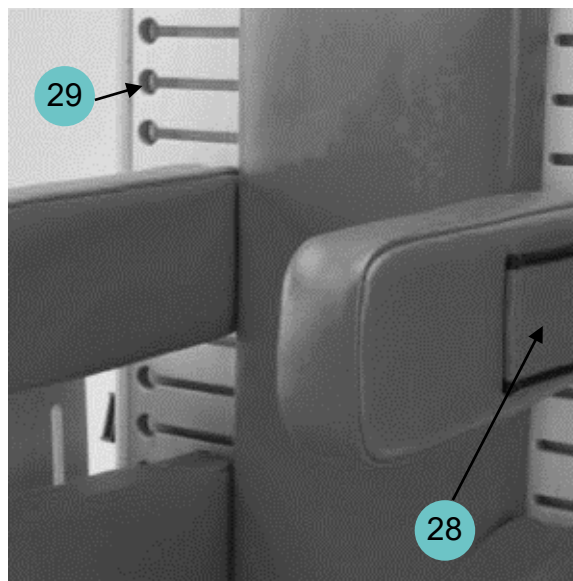

Figure 26
- To adjust the width of the laterals, peel back the flap on the outside (Ref. 28 of Figure 26).
- Slide the lateral all the way to the outside of the chair so that the fixing points can exit through the holes (Ref 29 of Figure 26)